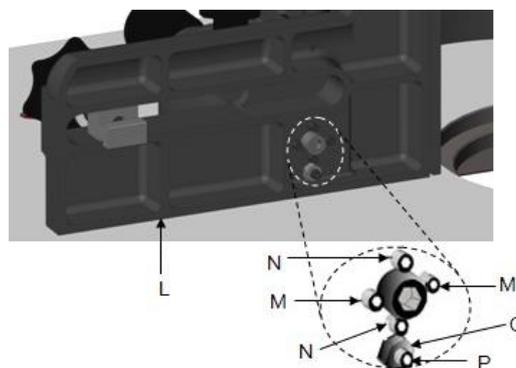
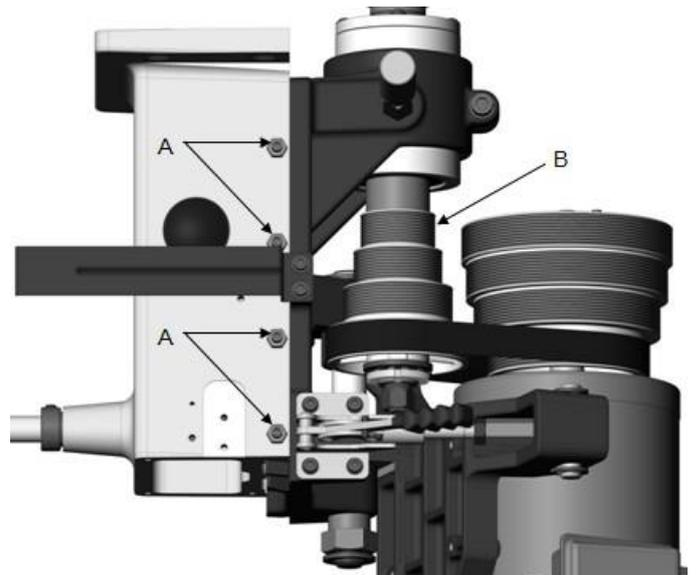

Fig. 10
Fig. 12
6. Remove both fences (J1, J2) and place the straightedge against the infeed and outfeed fence castings (Fig. 10).
7. Maintain steady pressure of the straightedge against the fence castings (K, Fig. 10). At the same time, attempt to bring both fences into alignment as shown in Fig. 11. This is accomplished by alternately making incremental adjustments to two setscrews (M, Fig. 12) on the front face of the casting (L, Fig. 12) with a 3mm hex wrench, followed by repositioning the casting with the ram adjust dial (Q, Fig. 12) as required.
**Important:** It is recommended that the adjustment setscrews (M, Fig. 12) be rotated in 1/16th increments or less at a time.
8. Place a square against the casting (L, Fig. 10) and table.
9. If adjustment is required, adjust setscrews N (Fig. 10).
5. Using a 10mm wrench, loosen the lock nut (O, Fig.10) that secures the zero stop set-screw (P, Fig. 12) on the casting (L, Fig. 10).
6. Loosen or tighten the setscrew (P, Fig.10), as required, to bring fence castings into alignment as shown in M.
**Note:** Ram Dial Adjust (A) is fully clockwise (from step 2).
7. Tighten lock nut (O, Fig. 10).
The spindle housing gib on your machine is factory adjusted and initially should not require readjustment. After a period of use the gib may wear and become loose, introducing play and potentially causing the spindle (B) to vibrate. This requires adjustment (Fig. 12).